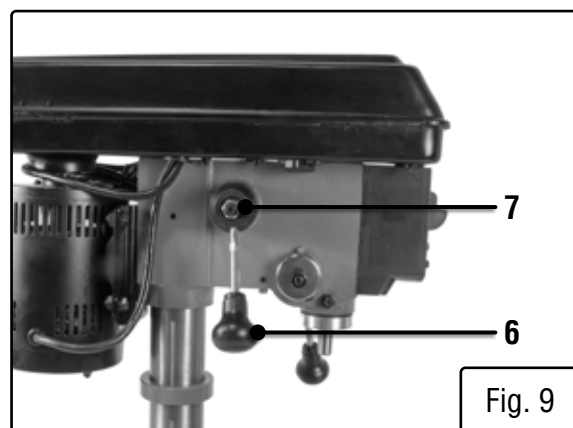

Fig. 9
SPEED HANDLE (FIG. 9)
1. Insert the speed handle (Fig. 9 - 6) into the threaded opening on the speed hub (Fig. 9 - 7).